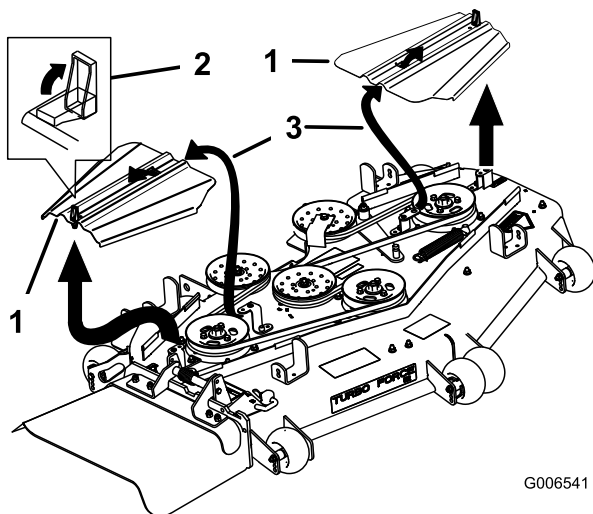

Figure 58
3. Remove the belt covers (Figure 58).